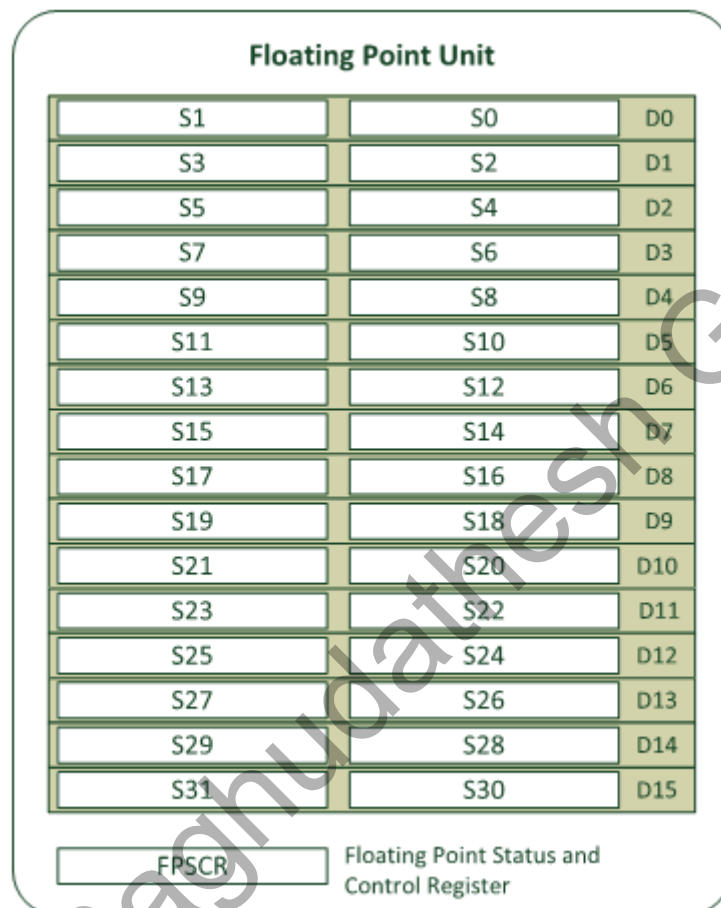

Figure 14: Registers in the floating point unit
- The Cortex-M4 processor has an optional floating point unit. This provides additional registers for floating point data processing, as well as a Floating Point Status and Control Register (FPSCR) as shown in Figure 14